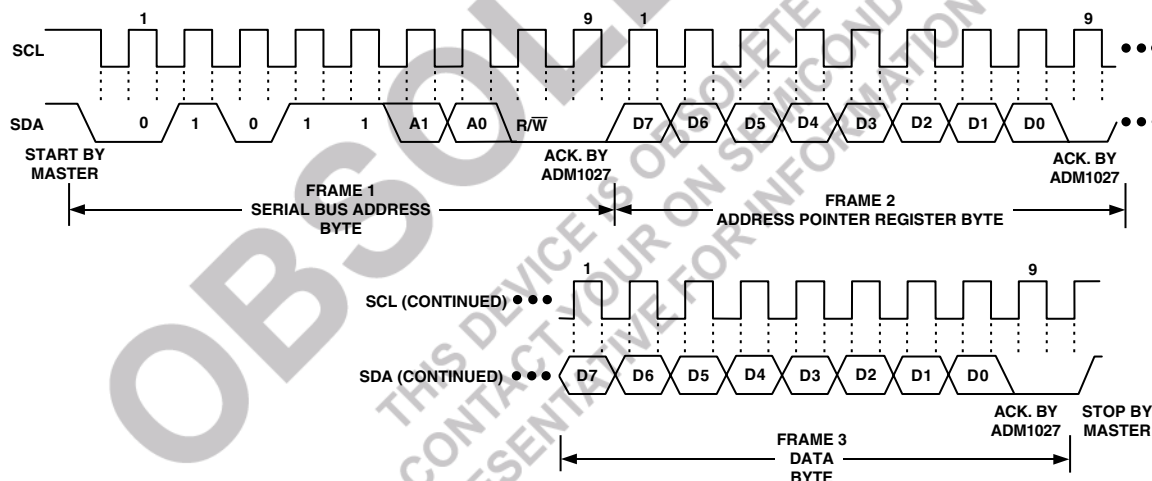

Figure 6. Writing a Register Address to the Address Pointer Register, Then Writing Data to the Selected Register
This is illustrated in Figure 6. The device address is sent over the bus followed by $R/\overline{W}$ being set to 0. This is followed by two data bytes. The first data byte is the address of the internal data
2. In Figures 6 to 8, the serial bus address is shown as the default value 01011(A1)(A0), where A1 and A0 are set by the address select mode function previously defined.